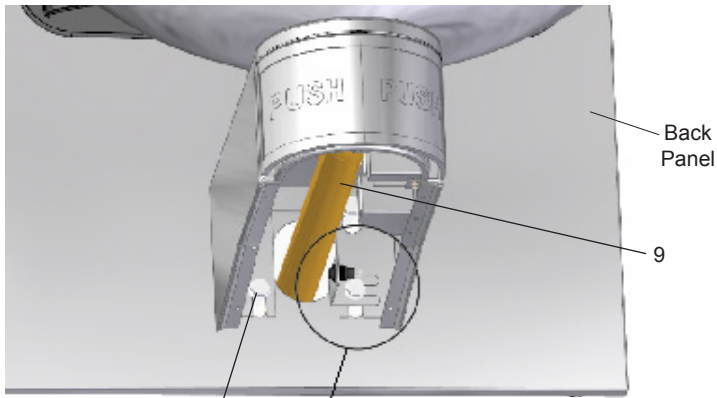

Figure 4
7. **Install** reset switch and mating bracket on lower fountain (lower right bolt) for bottle filler (Fig. 4). Snap the switch into position after locating wires through slot. Wrap up the excess cord.
8. Install fountains with (8) 5/16-18 HHMS (provided) (Fig. 4). Connect the 1/4" water lines from each fountain to the remaining openings on the tee at the remote chiller (cut lines to fit as needed), (Test fit refrigerated panel to make sure there is a tight joint between it & the main panel before fully tightening mounting screws).
- 1) To access the program button, remove the bottom cover on lower fountain arm (Fig. 4) by removing the bottom cover screws. Reset button is located on mounting bracket.